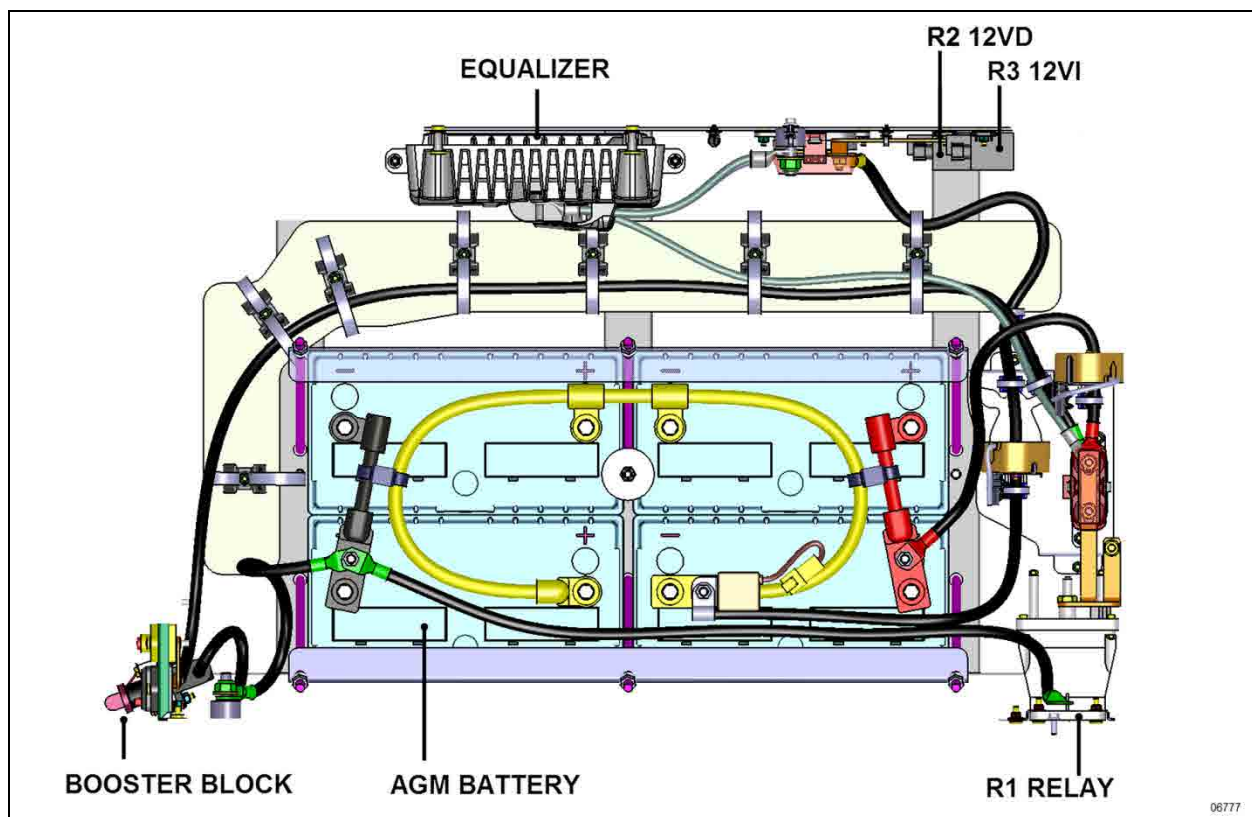

Fig.15 Battery compartment overview
15. Reconnect the batteries following Fig.15 below (apply a small amount of torque seal to the connections).